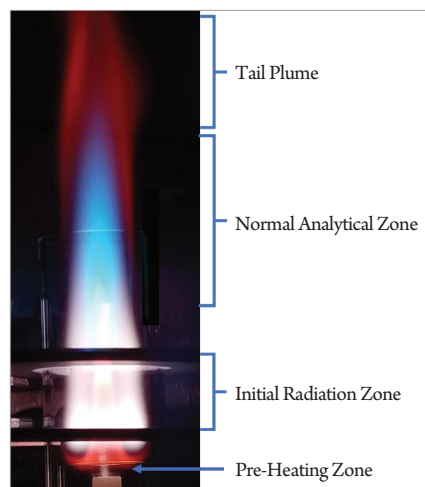

Figure 2. Zones of an inductively coupled plasma aspirating 1000 ppm Y. The blue section (normal analytical zone) is the result of emission from Y.
A plasma consists of four separate zones, as shown in Figure 2 for a plasma with 1000 ppm yttrium (Y) being aspirated: the pre-heating zone, the initial radiation zone, the normal analytical zone, and the tail plume.
The pre-heating zone occurs between the end of the injector and the base of the plasma. In this area, particles and droplets exit the injector and are transported to the base of the plasma. Once they enter the plasma, the particles and droplets enter the initial radiation zone, where they undergo heating, desolvation, and begin the process of atomization and/or ionization. The normal analytical zone is where the light is read for most analyses, either perpendicular to the plasma (radial viewing) or co-axially down the torch (axial viewing). In Figure 2, the blue part of the plasma is emission from Y in the normal analytical zone. Finally, non-ionized particles travel through the tail plume (the red part of the plasma in Figure 2), which is much cooler than the normal analytical zone, producing molecular emissions (i.e. Y in Figure 2) which may interfere with analytes.